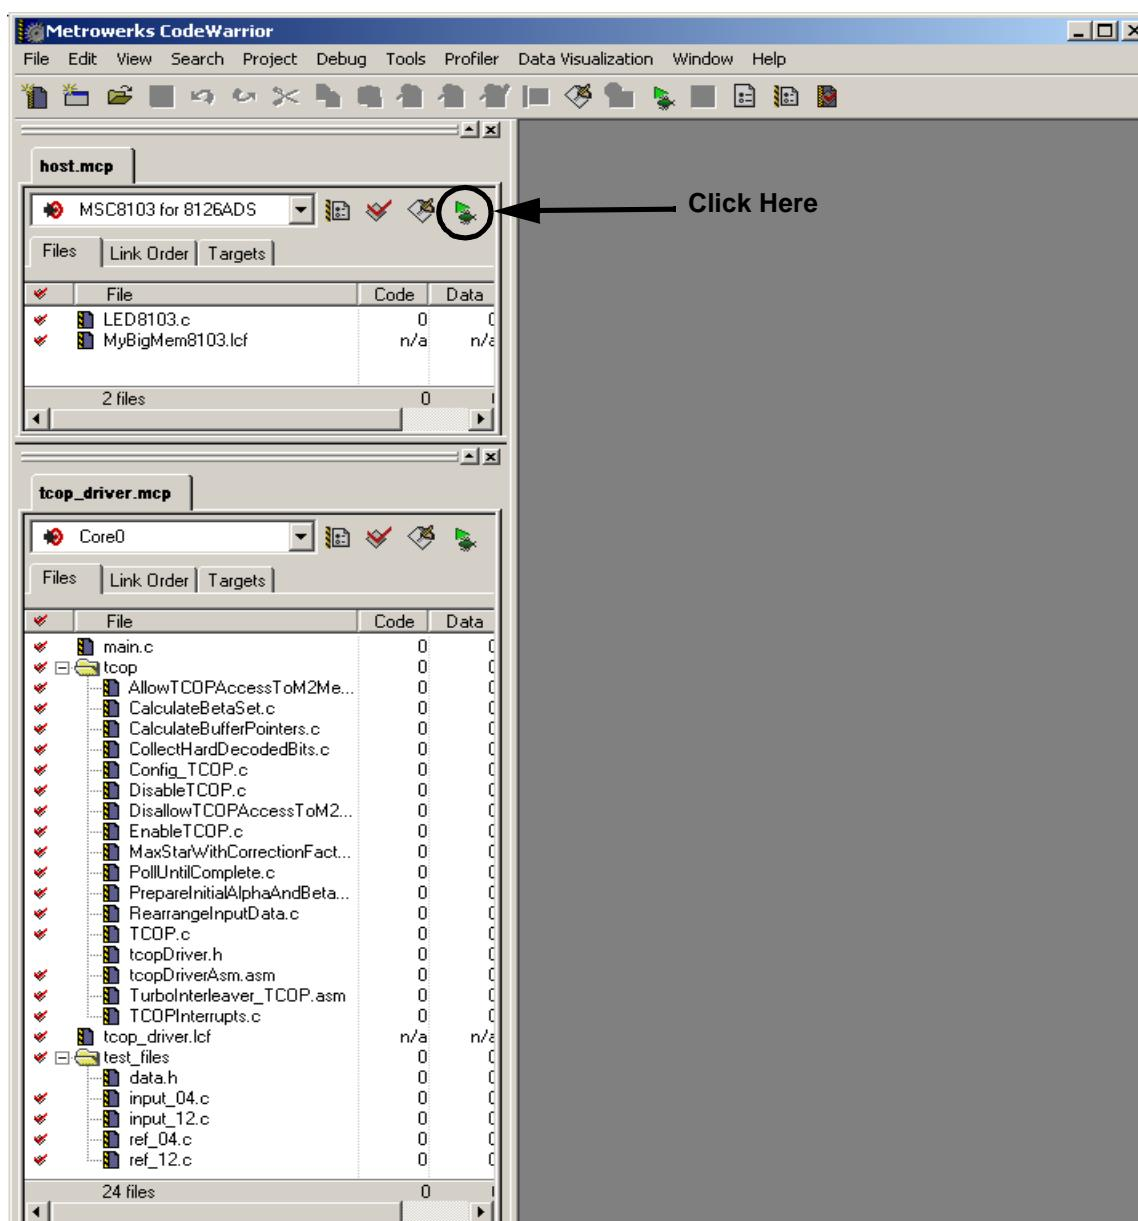

Figure 2. TCOP Driver CodeWarrior Projects
2. Open the host.mcp file. A window similar to that shown in **Figure 2** appears, except that the tcop_driver project is not yet open.
3. Click on the Debug icon at the top of the host.mcp project window (see **Figure 2**). CodeWarrior should automatically build this project (if the build settings in the IDE preferences are set to **ALWAYS BUILD BEFORE RUNNING**), open the tcop_driver project, build the tcop_driver project, and open the debug windows for both projects.